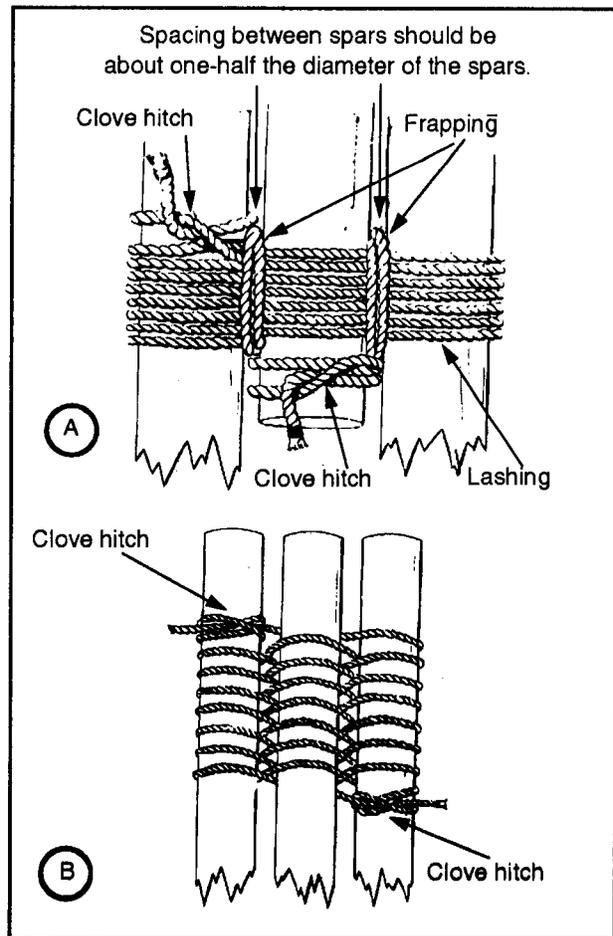

Figure 5-4. Lashing for a tripod
- Make a clove hitch (using a 1-inch rope) around one of the outside spars about 4 inches above the lashing mark, and take eight turns of the line around the three spars (see *Figure 5-4, A*). Be sure to maintain the space between the spars while making the turns.
You can use this method when using slender poles that are not more than 20 feet long or when some means other than hand power is available for erection (see *figure 5-4, B*). The procedure is as follows: